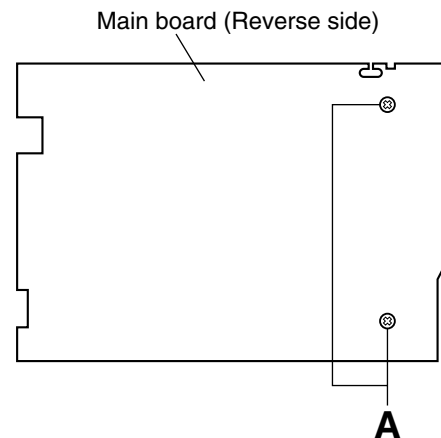

Fig.2
■ Replacing the power amplifier IC on the main board (See Fig. 2.)